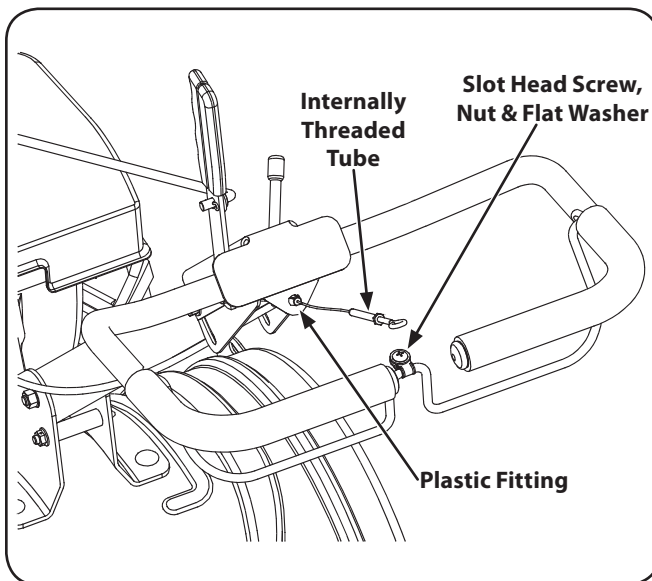

Figure 3-3
3. Push the cable through the hole in the center of the handle and snap in the plastic fitting. See Fig. 3-3.